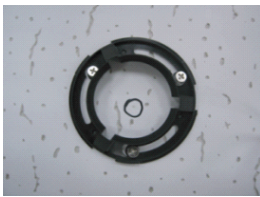

Figure 1
- Step 2. Slightly drill the supplied three screws into the three round holes on the mounting bracket and rotate the bracket clockwise until the screws are wedged into the narrower chase (as shown in Figure 1). Tighten the fixing screws to secure the mounting bracket to the ceiling.